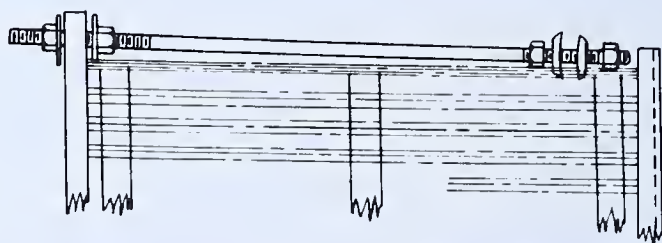

FIG. 480 — *Tie-rods for Securing Mud Drum in Position*
3. Place tie rods through the uptake headers (as shown in Fig. 480) in readiness to tie fast the steam drum when it is raised into position.